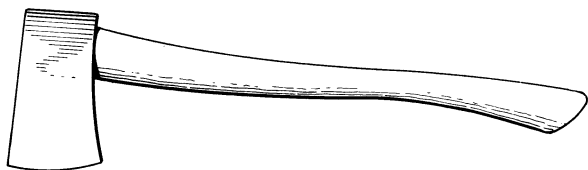

Figure 8.—A single-bit ax.
2. Single-bit, 3½- to 4-pound head, curved handle 28 to 34 inches long (fig. 8). This is probably the favorite ax in the agricultural areas of the North-